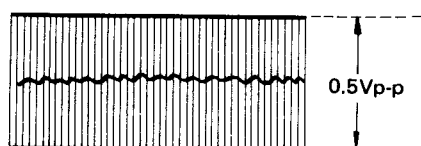

Figure 98.
2. Observe the output of TP-401 on oscilloscope (external trigger, TP-506), and adjust R433 (noise level control) so that the output level will be as shown. (Fig. 98)